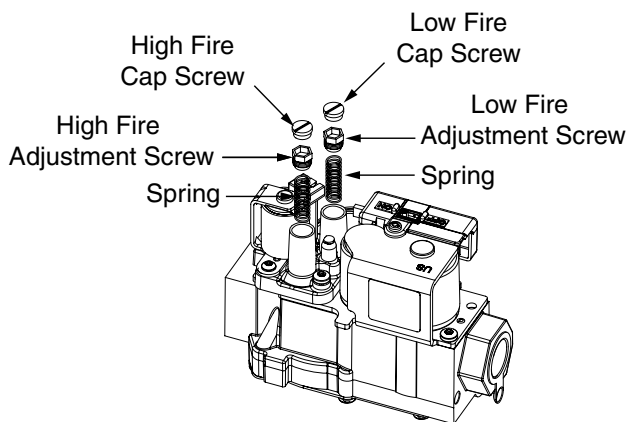

Figure 24. Regulator Spring and Adjustment Screw Removal
1. Remove the HIGH fire cap screw. See Figure 24.